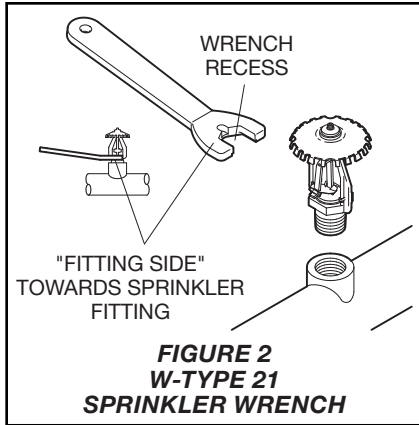

FIGURE 2
Note: Install the Model ESFR-17 Upright Sprinkler in the Upright position (Ref. Figure 2).
Step 2. Wrench-tighten the Model ESFR-17 Upright Sprinkler using only the W-Type 21 Sprinkler Wrench (Ref. Figure 2) and by fully engaging (seating) the wrench on the sprinkler wrench flats (Ref. Figure 1).